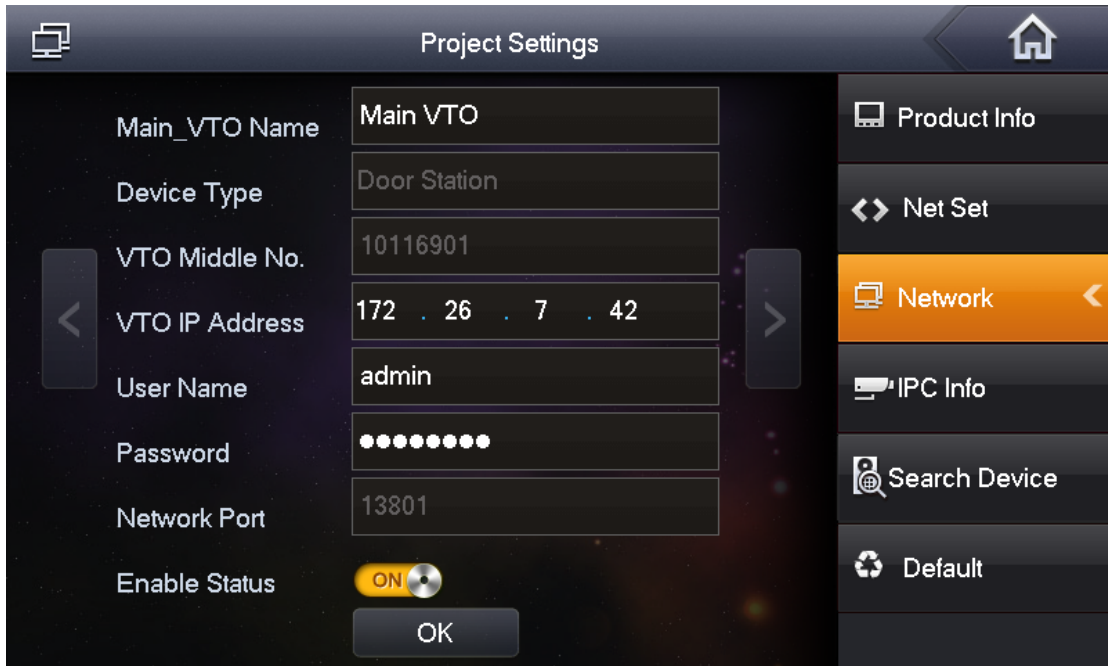

Figure 5-16
The system displays “Network” interface, as shown in Figure 5-16.
1. In Figure 5-16, enter main VTO name, IP address, “User Name” and “Password”.